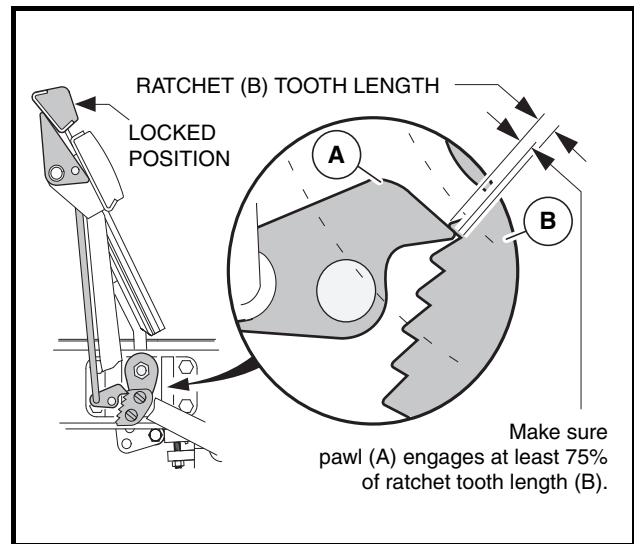

Figure 5-15 Ratchet/Pawl Tooth Engagement
- 3.4. With the park brake locked, make sure at least 75% of ratchet tooth length engages the pawl (**Figure 5-15, Page 5-13**). Tooth engagement should be between the two lines marked on the pawl.